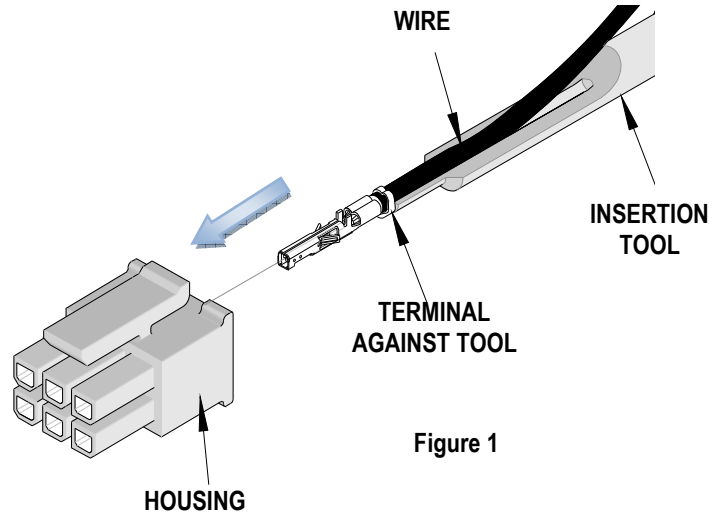

Figure 1
1. To properly use this tool, with the flat side facing up, place the wire in the groove of the tool so that the terminal is touching the end of tool. See Figure 1.